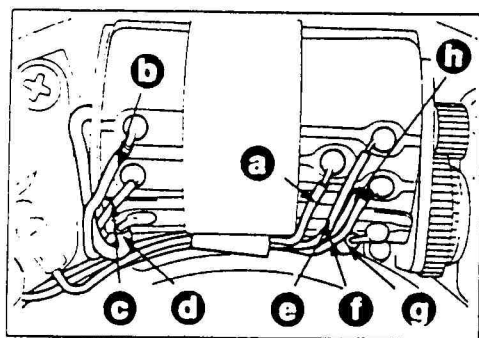

Fig. 6
4. Unsolder 8 pcs. of lead wire from the flexible board. (See Fig. 6.)
- ① Yellow
- ② Blue
- ③ Green
- ④ Black
- ⑤ White
- ⑥ Brown
- ⑦ Red
- ⑧ Brown